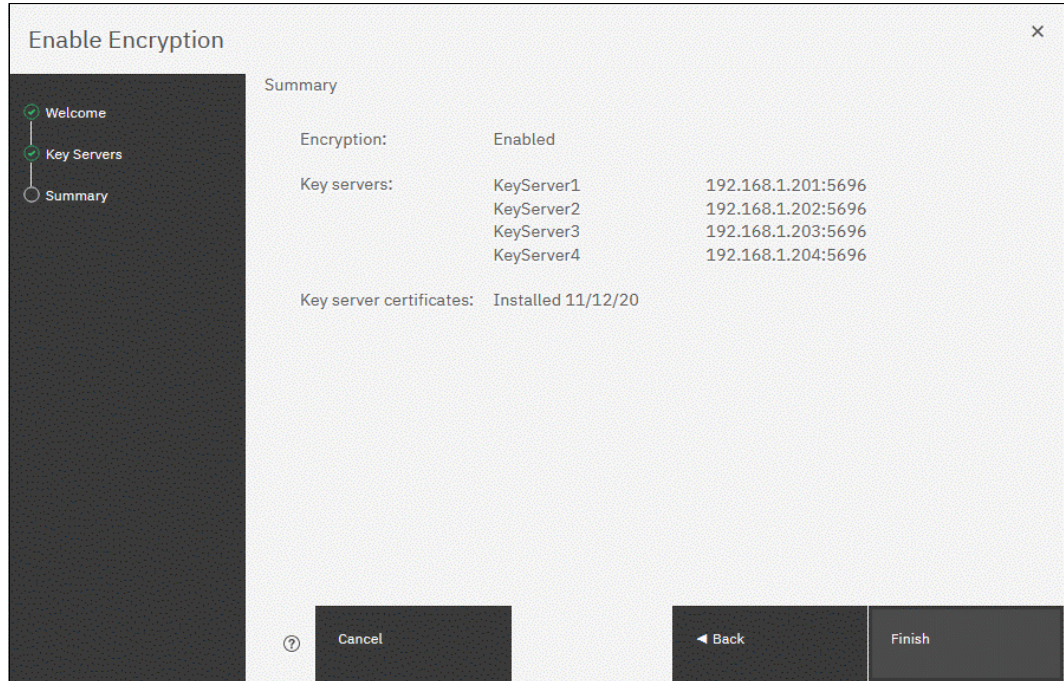

Figure 12-36 Finishing the enablement of encryption by using IBM Security Key Lifecycle Manager key servers
10. The key server configuration is shown in the **Summary** tab, as shown in Figure 12-36. Click **Finish** to create the key server object and finalize the encryption enablement.